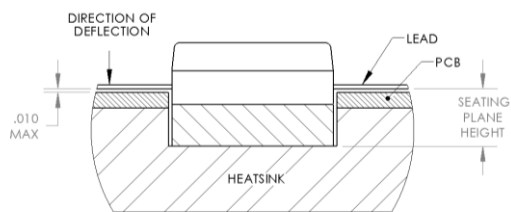

FIGURE 1: COMPONENT SEATING PLANE HEIGHT AND LEAD DEFLECTION.
**The device leads should be flat or deflected downwards as shown in Figure 1. The maximum lead tip deflection should be 0.010" (0.25 mm).**